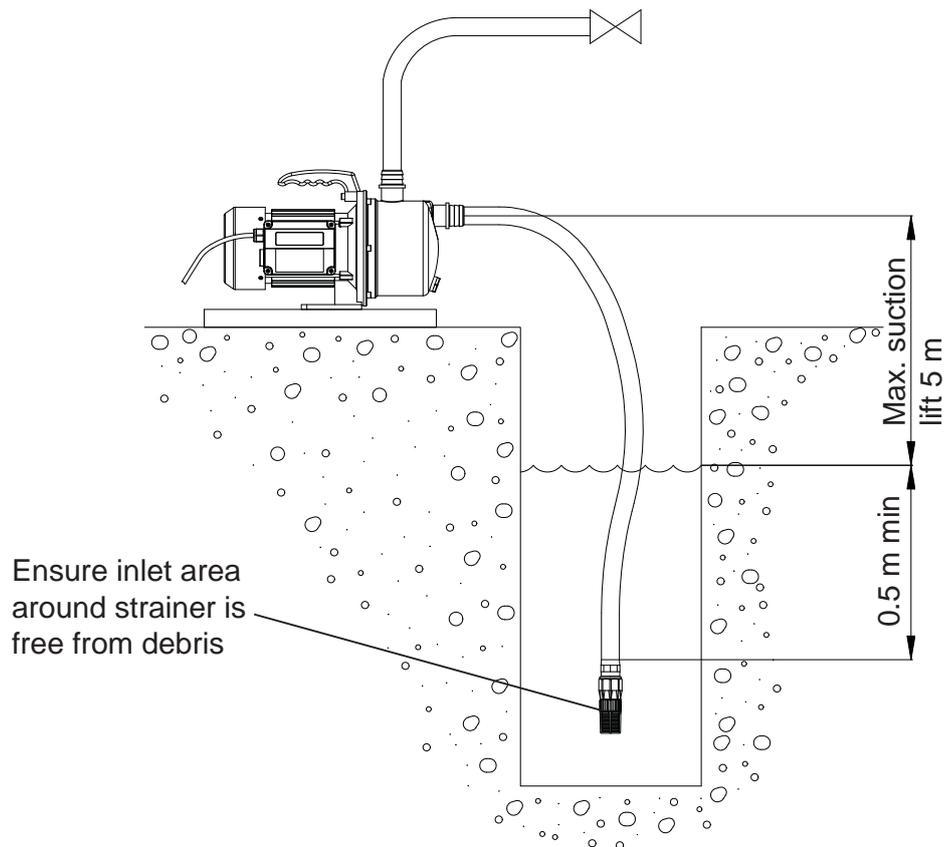

Fig. 3
- 2.24 **Suction lift:** This pump is capable of a maximum suction lift of 5 m in this case only, an NRV in the footvalve is permissible (Fig. 3).
- 2.26 **Self Priming:** Jet 55-45 and 80-45 pumps are capable of self priming the suction hose assembly, providing a footvalve and strainer (not supplied) is always used for this type of installation. The Jet pump can be used in a suction lift installation providing the height of lift is no greater than maximum permitted (Fig. 3).